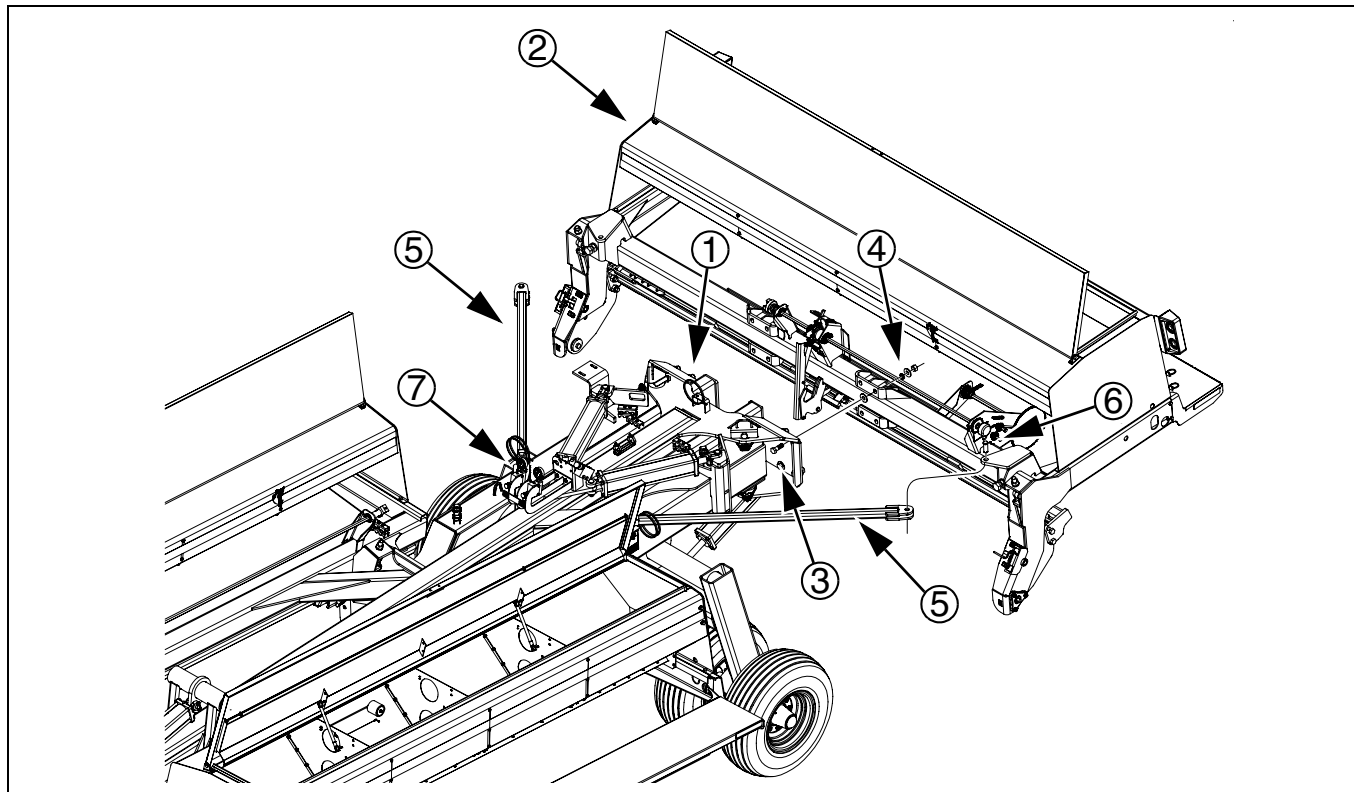

Figure 4
*Refer to Figure 4*
1. Unload mainframe/wing assembly ① from truck and place it in a location that allows for wing unfolding (21 feet (6.4 m) either side of implement centerline; 42 feet (12.8 m) total span).